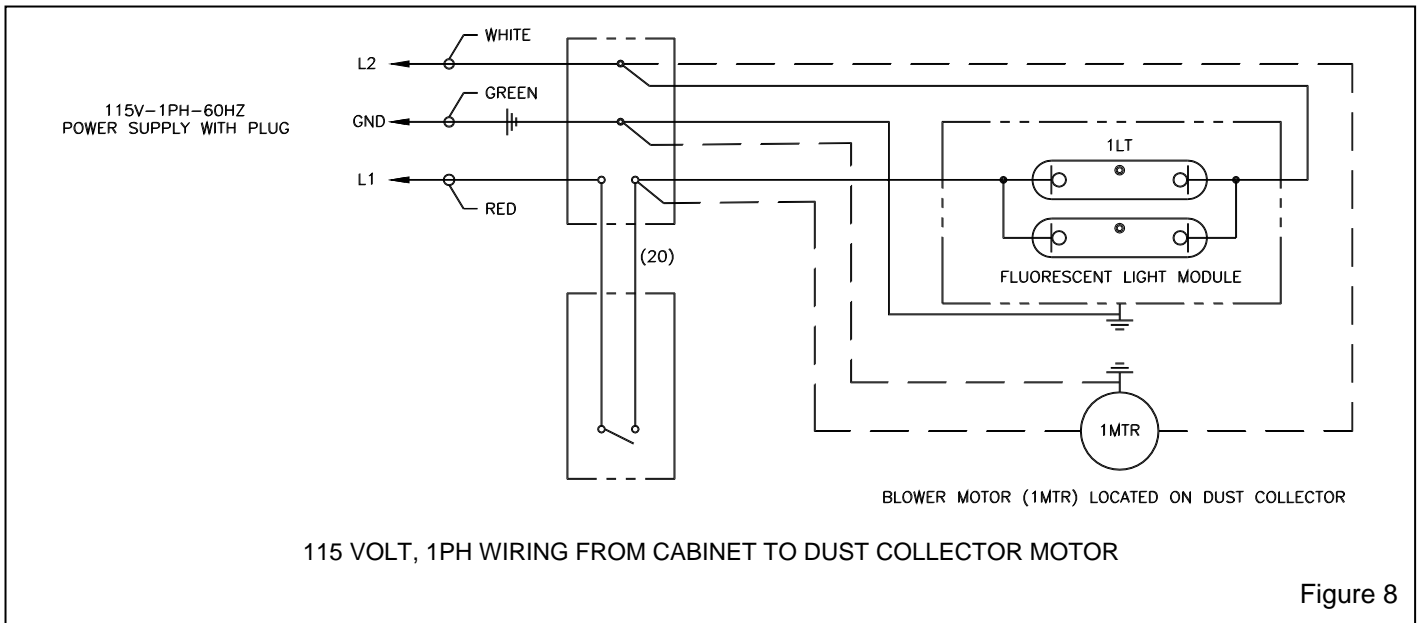

Figure 8
**2.9.2.1** Refer to the wiring schematic in Figure 8. Wire the dust collector motor per instruction on the motor data plate to the junction box mounted on the cabinet. When wired as noted in Figure 8, the exhauster motor will start when the cabinet light switch is turned ON and stop when the switch is turned OFF.